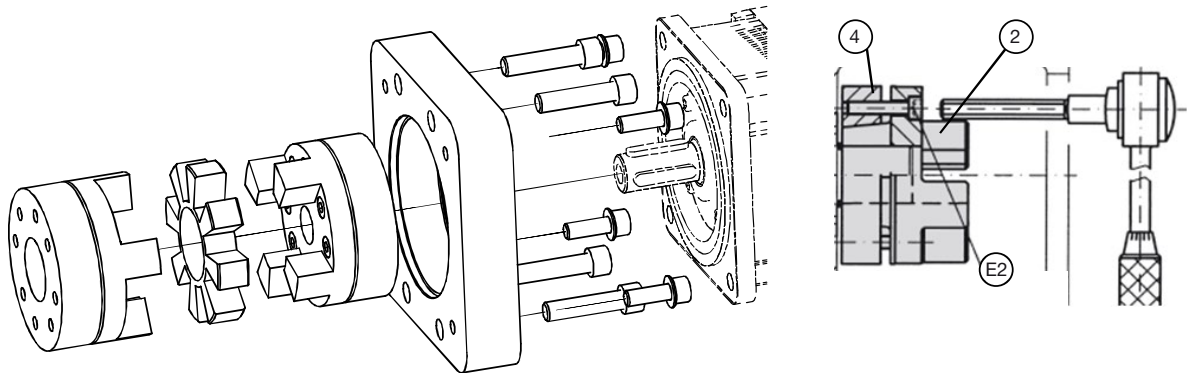
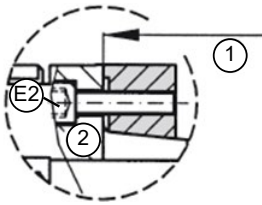
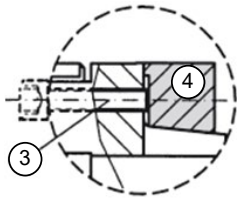

Figure 15: Motor /gear assembly ETH100 ... ETH125 inline
Figure 16: Coupling fixed stop ETH100 & 125
Figure 17: Clamp collar ETH100 & 125
- Loosen all clamping screws (see Figure 15 & Figure 16 pos. E2) carefully (approx. 3 mm) and screw two of the screws into the open threaded holes. Now tighten screws evenly until the clamp collar (please refer to Figure 17 Pos. 4) is released from the coupling hub (please refer to Figure 16 Pos. 2) and can be freely moved.